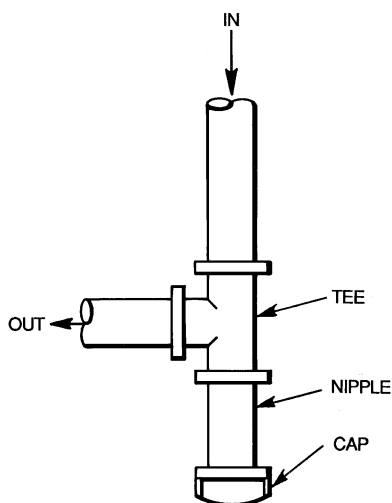

Fig. 15 — Sediment Trap
4. Install sediment trap in riser leading to heating section per Fig. 15. This drip leg functions as a trap for dirt and condensate.